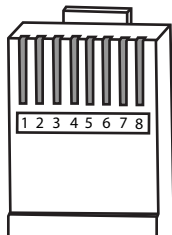

Fig. 4-5, RJ45 Defined Pins
2. PC monitoring setting software OB Micro Series Monitor (Use a USB to RS485 converter cable as shown in Fig. 4-5, model: FM Micro Comm Cable).